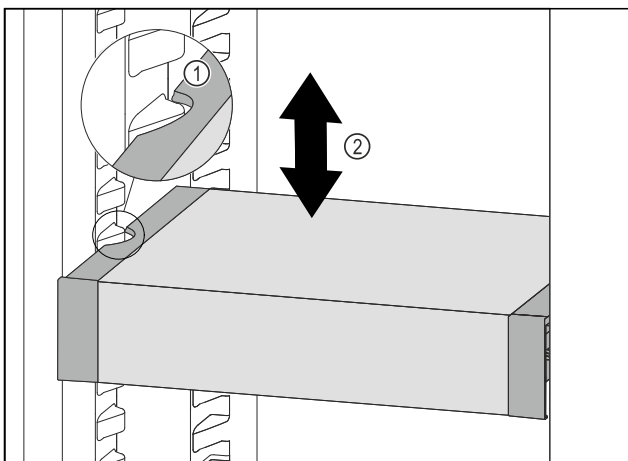

Fig. 147
- ▶ Pull VarioSafe forwards until the recesses in the side of the VarioSafe are at the level of the support rib in the refrigerator compartment. *Fig. 147 (1)*
- ▶ Move VarioSafe up or down in the refrigerator compartment until the desired height is reached. *Fig. 147 (2)*